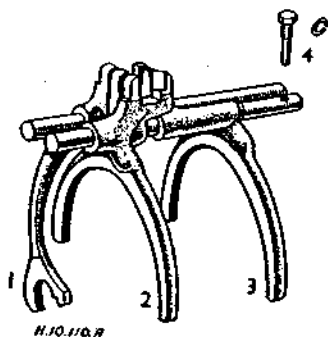

Fig. 3.
3. Fig. 3 shows the relative position of all forks and rods when assembled in the box.